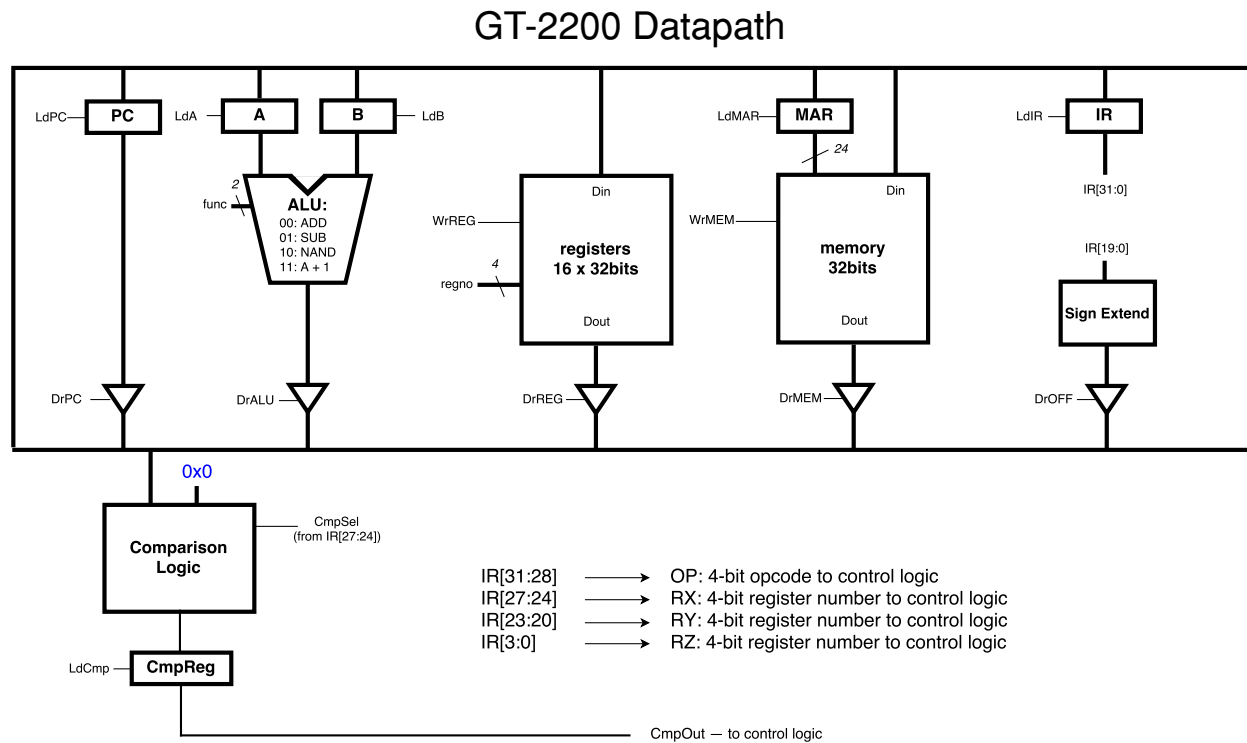

Figure 1: Datapath for the GT-2200 Processor
2. Using Brandonsim, implement the GT-2200 datapath. To do this, you will need to use the details of the GT-2200 datapath defined in Appendix A: GT-2200 Instruction Set Architecture. You should model your datapath on Figure 1.
The “comparison logic” box in Figure 1 is responsible for performing the comparison logic associated with the SKP instruction. The comparison logic should read the current value on the bus plus the mode bits from the IR. When executing SKP, you should compute  $A - B$  using the ALU. While this result of the ALU is being driven on the bus, the comparison logic should read the result  $A - B$  and output a single “true” or “false” bit for either the condition  $A = B$  or  $A > B$  depending on the mode input.
2. Implement the Microcontrol Unit using Brandonsim. The appendix contains all of the necessary information. Take note that the input and output signals on the schematics directly match the signals marked in the GT-2200 datapath schematic (see Figure 1).
3. Connect the completed control unit to the datapath you implemented in Phase 1. Using Figures 1 and 2, connect the control signals to their appropriate spots.